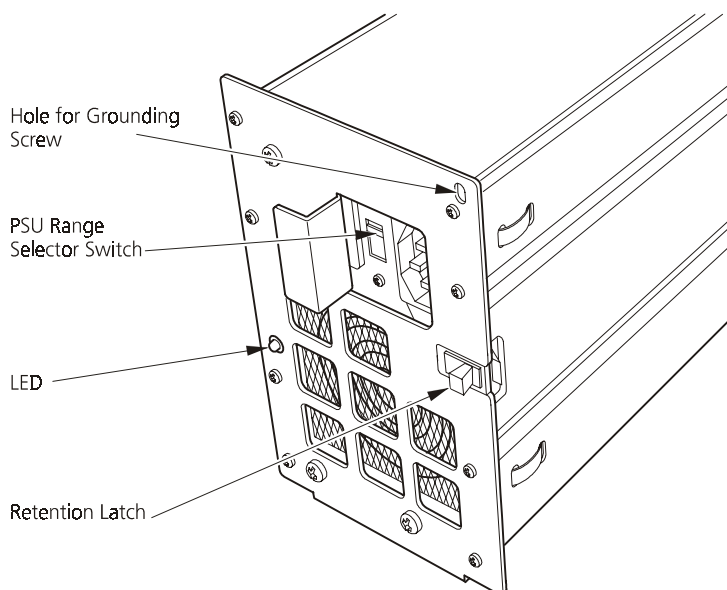

Figure 2–3 Power Supply Voltage Range Selector Switch
- 3 If you are installing SS-PSU-450 modules, Set the red Voltage Range Selector switch (Figure 2–3) adjacent to the mains inlet socket to either 115V or 230V as required for your installation. SS-PSU-550 modules are auto-ranging.